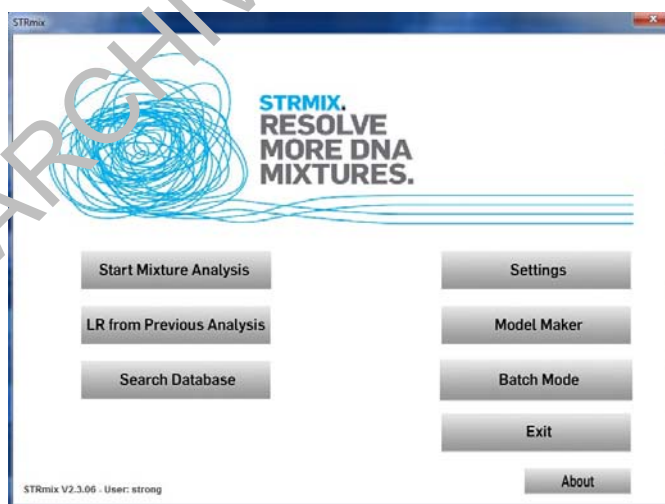

FIGURE 1
Start STRmix™ by double-clicking the STRmix™ icon on the desktop or select STRmix™ from Start > STRmix™. The STRmix™ main menu will display (see Figure 1).
1. Multiple samples may also be added to STRmix™ to be processed sequentially by selecting Batch Mode from the screen in Figure 1.
1. From the STRmix™ main menu (Figure 1), select Search Database.
1. When performed after the initial deconvolution, select LR from Previous Analysis from the STRmix™ main menu (Figure 1).